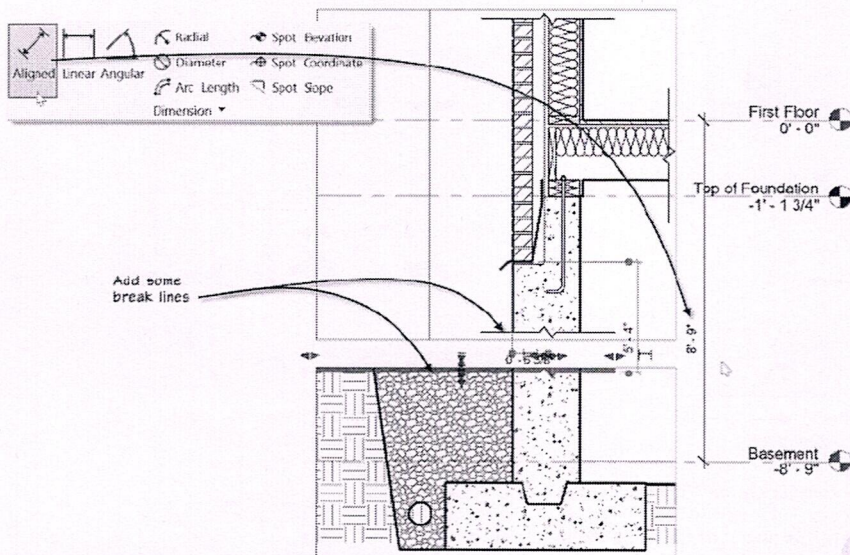

FIGURE 12.23 Dimensions display true distances across view breaks
- ⇒ Move to the left crop region boundary and click next to it (in the white space) to place the dimension string (see Figure 12.23).